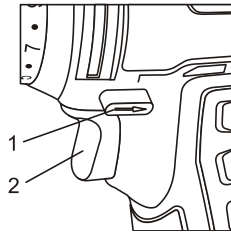

Fig. 6
The forward/reverse switch (1) is conveniently mounted above the trigger switch (2) (Fig. 6). To make the drill rotate clockwise (for drilling) push the forward/reverse switch to the left. To make the drill rotate counter-clockwise for removing screws, push the forward/reverse switch to the right.